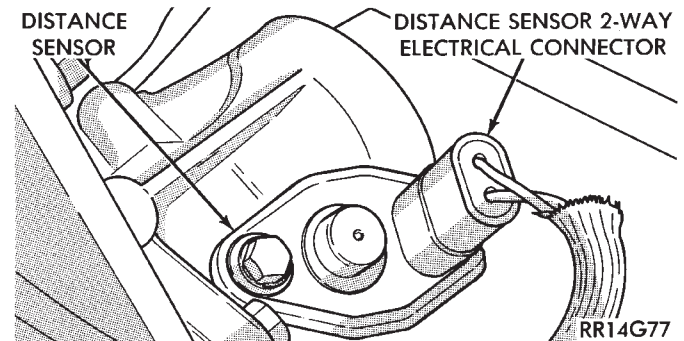

Fig. 16 Distance Sensor Electrical Connector
(26) Check the distance sensor electrical connection (Fig. 16).